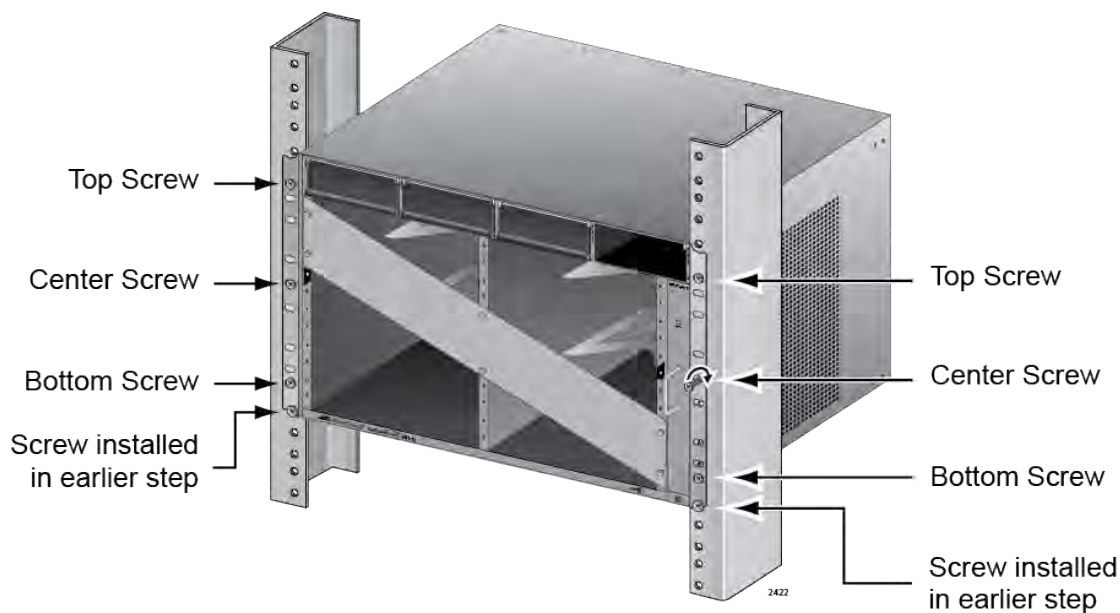

Figure 45. Installing the Rack Mount Screws
4. Install six rack mount screws (not provided) to secure the chassis to the equipment rack, as shown in Figure 45 on page 120.